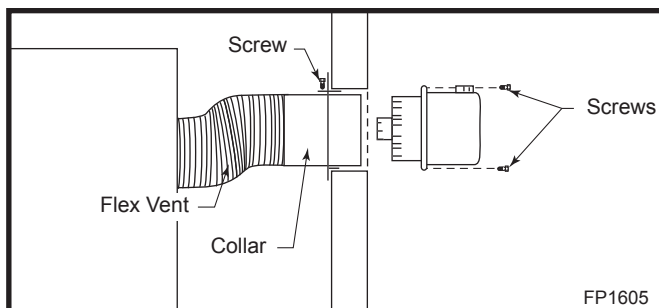

Fig. 23 Secure collar in place, slide termination into collar.
8. While pushing the unit in place, slide the collar through the firestop. **NOTE:** It may be necessary to trim some material off of the collar. The collar is made long to accommodate brick finished houses. (Fig. 23)
10. Slide the termination into the collar and secure with the 4 screws provided. (Fig. 23)